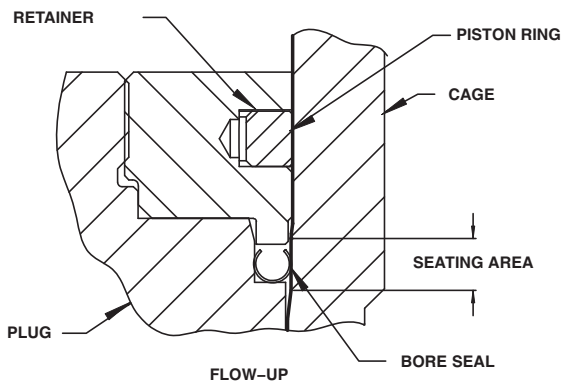

Figure 1. Flow-Up Fisher Bore Seal Construction
1. Apply a suitable high-temperature lubricant to the inside diameter of the Bore Seal plug seal. Also, lubricate the outside diameter of the valve plug where the Bore Seal plug seal must be pressed into the proper sealing position (figure 1).
- The open interior of the Bore Seal must face up in a valve with flow-up construction (figure 1).